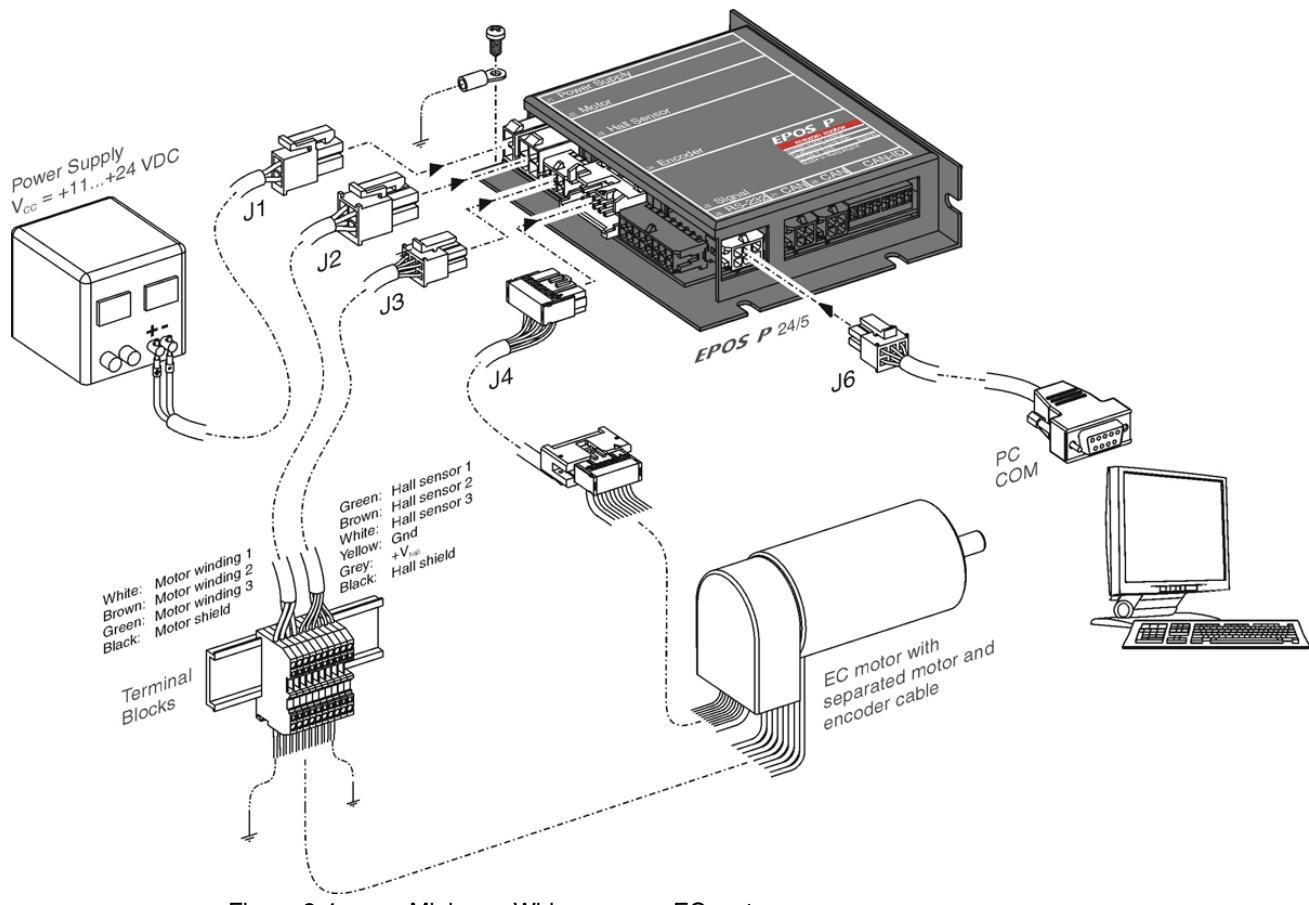

Figure 3-4 Minimum Wiring: maxon EC motor
- 2) Connect maxon cable assemblies (→Table 3-4 and Figure 3-4).